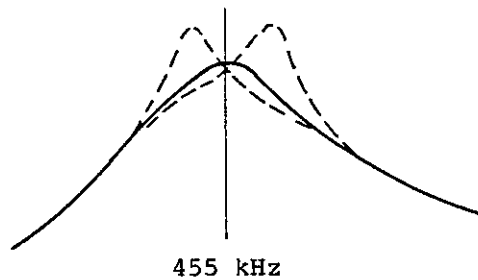

Fig. 11-25 Crystal filter adjustment
(2) Crystal filter adjustment
- ① Set the TR4171 RBW to 300 Hz.
- ② Check TP1 (IF-I) with a probe and change the graticule setting of the vertical scale of the external spectrum analyzer to 10 dB/div.
- ③ Observe waveform and adjust L536 and C408 so the filter waveform changes as shown in Figure 11-25 and the minimum level is obtained. Then adjust C392 so the left-side and right-side of the waveform become symmetric. Set the external spectrum analyzer graticule scale to 1 dB/div. and input the 455 kHz signal from each function generator, not from the tracking generator. Adjust C577 so the maximum level is obtained.